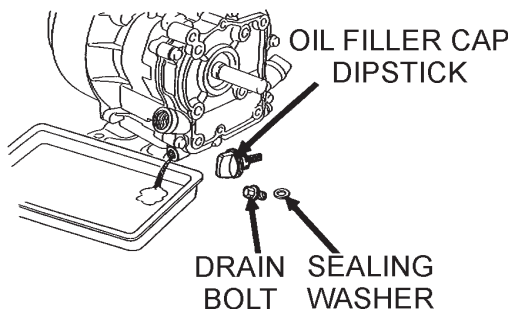

Figure 28. Engine Oil (Draining)
2. Drain the engine oil when the oil is **warm** as shown in Figure 28.